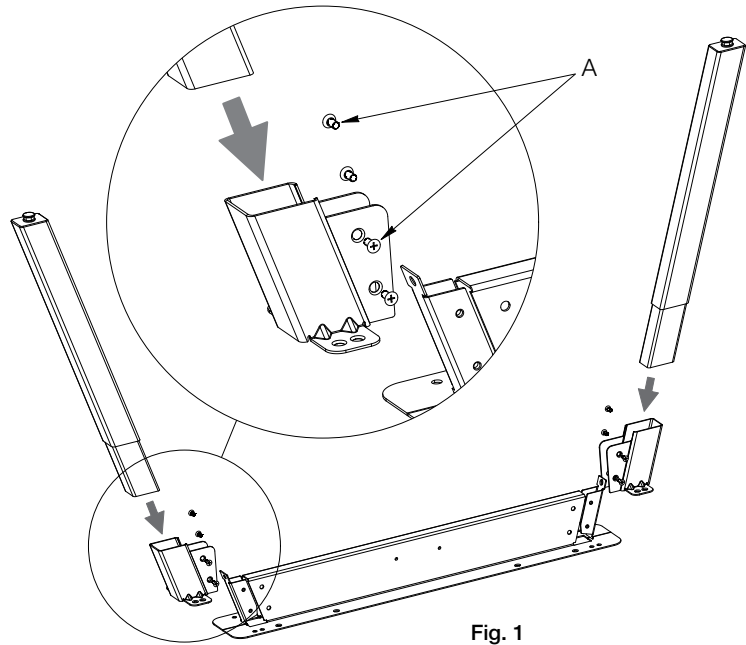

Fig. 1
1. Insert legs in to the leg brackets, they must be seated fully. (Fig. 1)
2. Attach the leg brackets (with leg installed) to the support assembly, using screw (A), 4 per leg bracket. (Fig. 1)